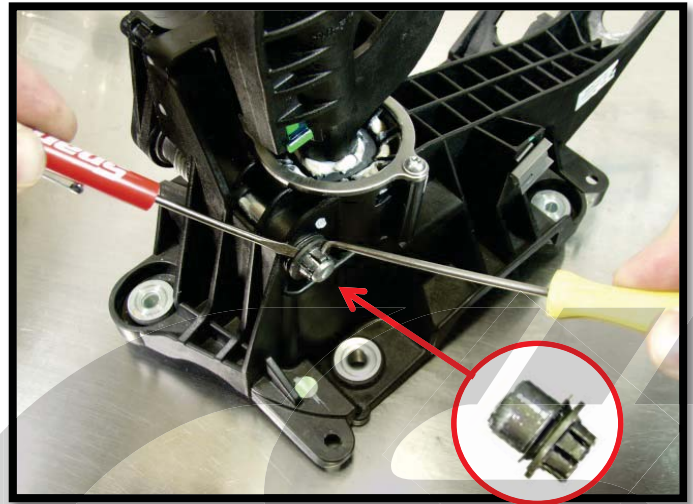

Figure 2a
- a) **Very carefully, remove the plastic retainer** (shown in Figure 2a). This step is best done with a small pick tool and flat blade screw driver.
- a) **Very carefully remove the plastic retainer (Figure 2a).** This step is best done with a small pick tool and flat blade screw driver.